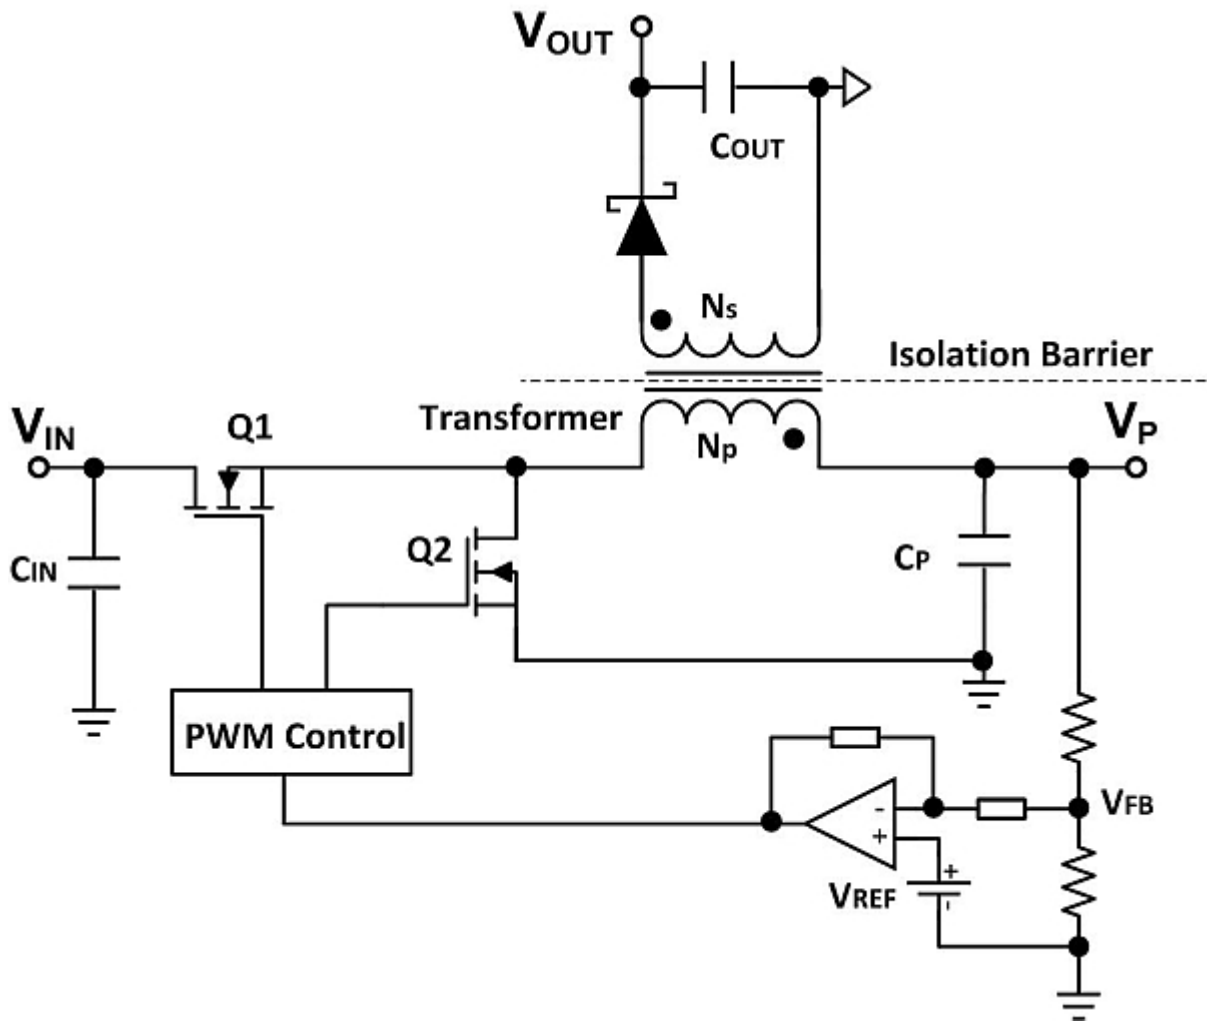
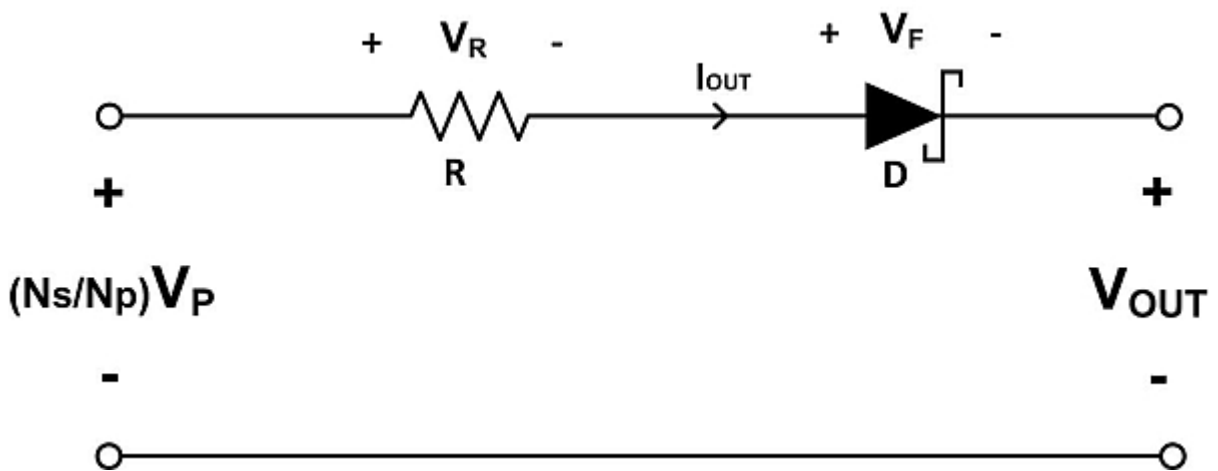

Figure 6. Fly-Buck converter
Figure 7. The equivalent circuit of a Fly-Buck converter
A fly-buck converter (**Figure 6**) is basically a synchronous buck converter with an additional winding coupled to its inductor to generate an isolated output (V_{OUT}). In addition to the isolated output on secondary side, Fly-Buck converters provide a regulated output (V_p) on the primary side. The primary side output is regulated in the same way as a standalone synchronous buck converter (2):
where D is the duty cycle of the buck switch Q1 in **Figure 6**. When the low-side synchronous switch Q2 conducts, V_p is reflected to secondary and rectified as V_{OUT} . The equivalent circuit is shown in **Figure 7**. V_{OUT} can be calculated by (3):